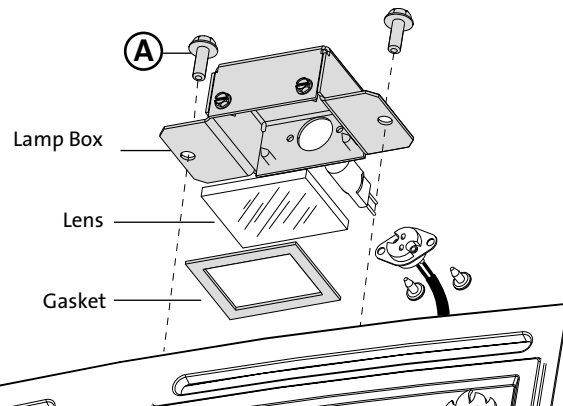

Figure 12.2. Accent Lamp installation.
2. Remove the two flanged hex head bolts (A) and cover plate from the Relief Panel using a 10 mm socket or wrench. See fig. .
3. Position the Gasket, Lens, and Lamp Box over the opening on the Relief Panel using the two bolts (A) previously removed.
4. Route the controls wire harness over and down between the back of the firebox and the rear shroud. **USE CARE TO AVOID CRIMPING THE WIRE HARNESS BETWEEN THE FIREBOX AND THE TOP CONVECTION SHROUD.** Connect the harness to the (L) terminal on the rear of IFC board. See figs. 12.2 - 12.3. *Loosen the IFC board wing nut and pull the board back to improve access to the terminal.*